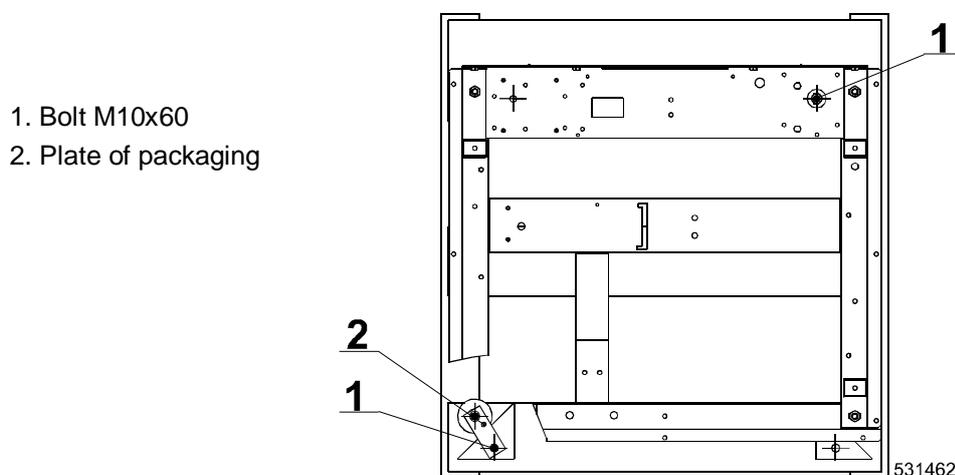

Fig.4.1. Section view from the top of the machine
If possible, leave the machine in transporting package until the machine connection in the laundry. The machine is screwed to the skid by two bolts M10x60, fig.4.1., pos.1. The placement of the bolts M10x60, fig.4.1., pos.1 depends on machine model - (according to position of the transformer on the rear beam of the frame). Remove the packaging and remove the rear panel, see fig.4.4. Remove the bolts M10x60, fig.4.1., pos.1, by which the machine is screwed to the skid. Remove the plate of packaging fig.4.1., pos.2 by unscrewing the adjustable leg together with the nut M10. Mount the rear panel and the adjustable leg together with the nut M10 back to the machine.